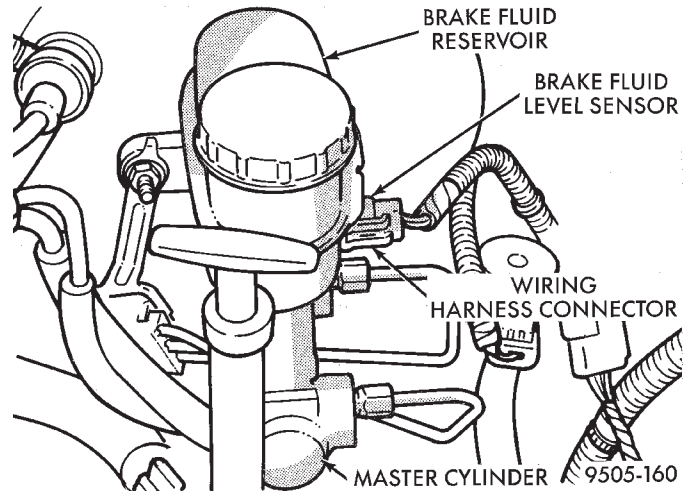

Fig. 150 Master Cylinder Fluid Level Sensor
(1) Remove wiring harness connector from brake fluid reservoir level sensor (Fig. 150).